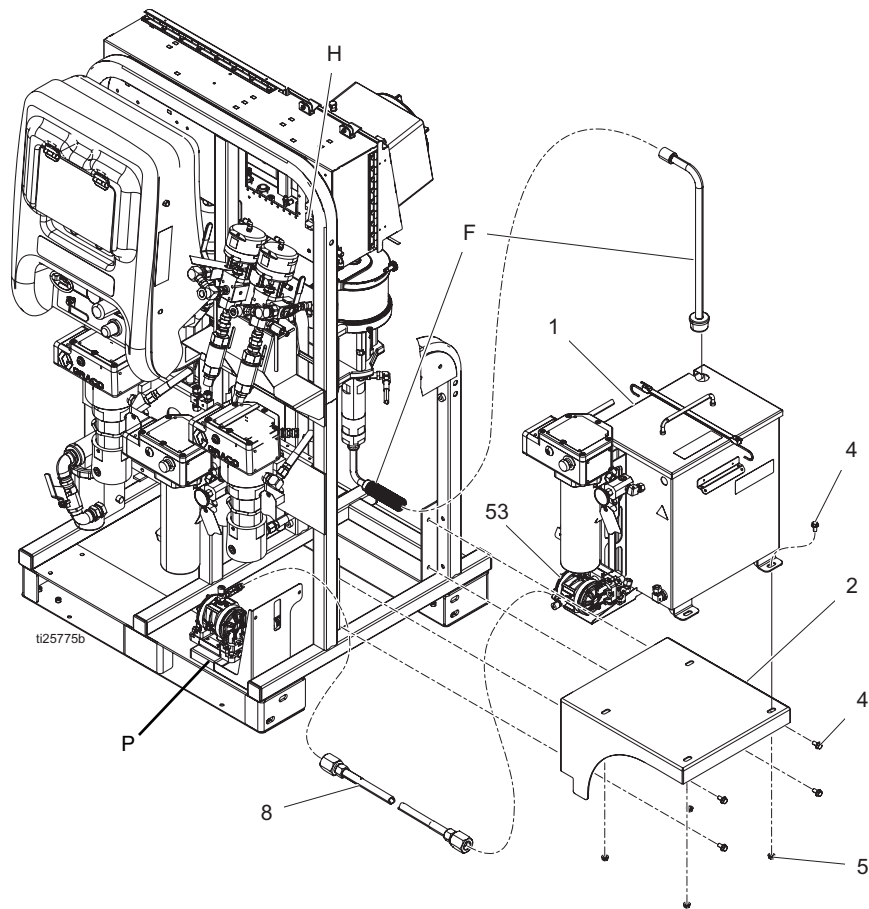

FIG. 3: Optional Location 1
See FIG. 1 on page 5 and FIG. 3.
- a. Remove cap (11).
4. Connect air hose (8) to circulation pump (53) and diaphragm pump (P) on the PFP system. See FIG. 3 on page 6 or FIG. 4 on page 7.